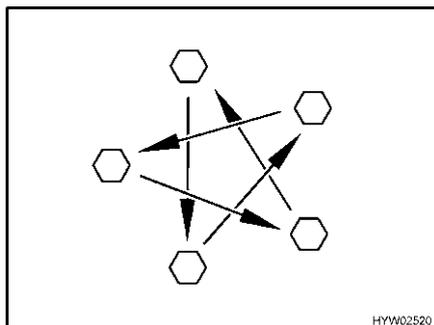

Fig. 306 Tighten the wheel nuts or wheel bolts cross-wise
- Check regularly that the wheel nuts or wheel bolts are firmly seated. Retighten the wheel nuts or wheel bolts of a changed wheel cross-wise (Fig. 306) after 50 km (30 miles). See section 13.5.2 for tightening torque.
- ▷ Tighten the wheel nuts or wheel bolts cross-wise (Fig. 306).